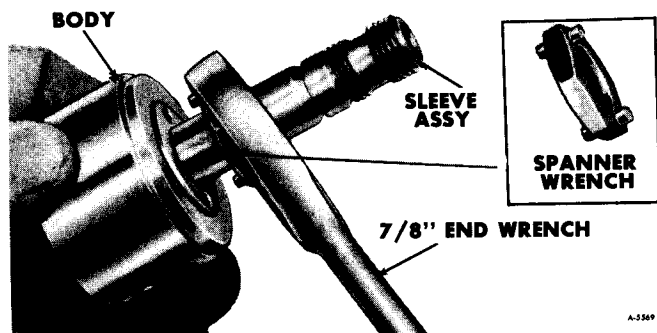

Figure 18—Removing or Replacing Sleeve With Special Tool (Spanner Wrench — Skinner # V0233)
3. Using spanner wrench (SKINNER # VD-233, or equivalent) remove sleeve, plunger and spring from valve body. (See figure 18).